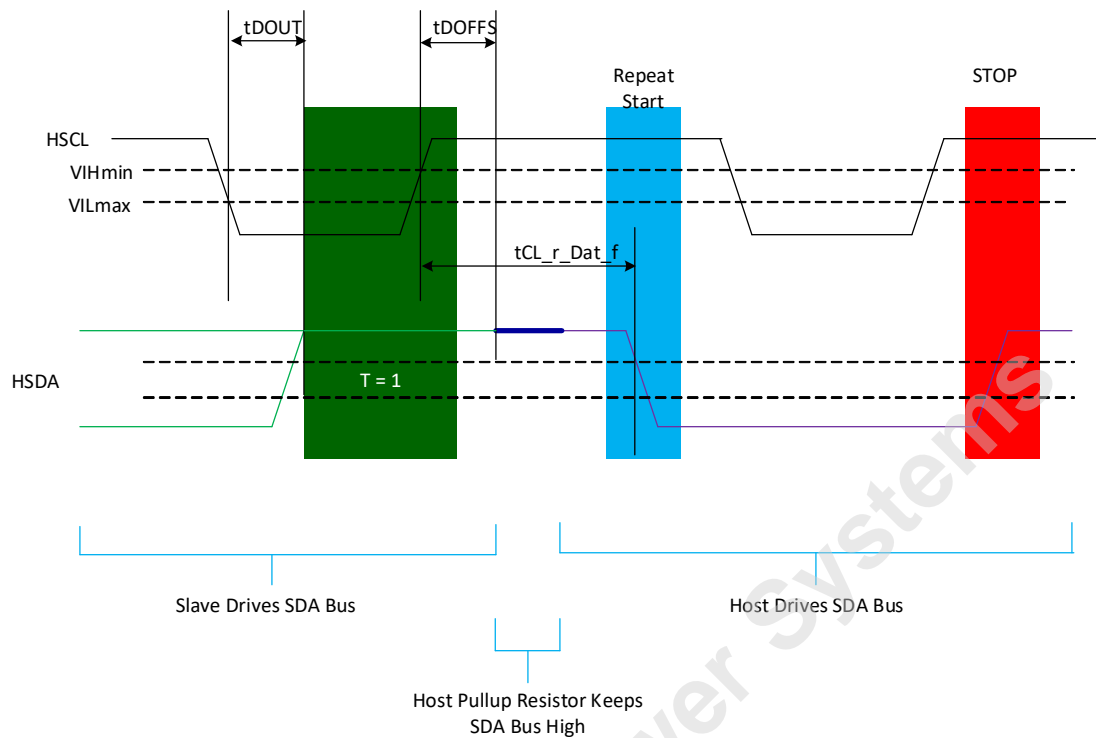

Figure 5 — T=1; Host Ends Read with Repeated START and STOP Waveform
7. See Figure 5 to see how Host ends slave device operation.
2. See Figure 5 to see how Host ends slave device operation.
4. See Figure 5 to see how Host ends slave device operation.